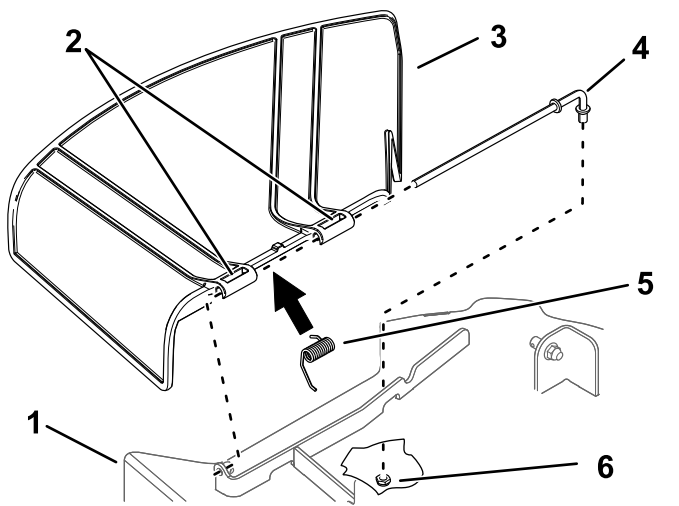

Figure 62
1. Remove the nut (3/8 inch) from the rod under the mower (Figure 62).
- Slide the rod out of the short stand-off, spring, and grass deflector (Figure 62).
- Install the new grass deflector (Figure 62).
- Slide the rod through the second grass-deflector bracket (Figure 62).
- Secure the rear end of the rod into the mower with a nut (3/8 inch) as shown in Figure 62.